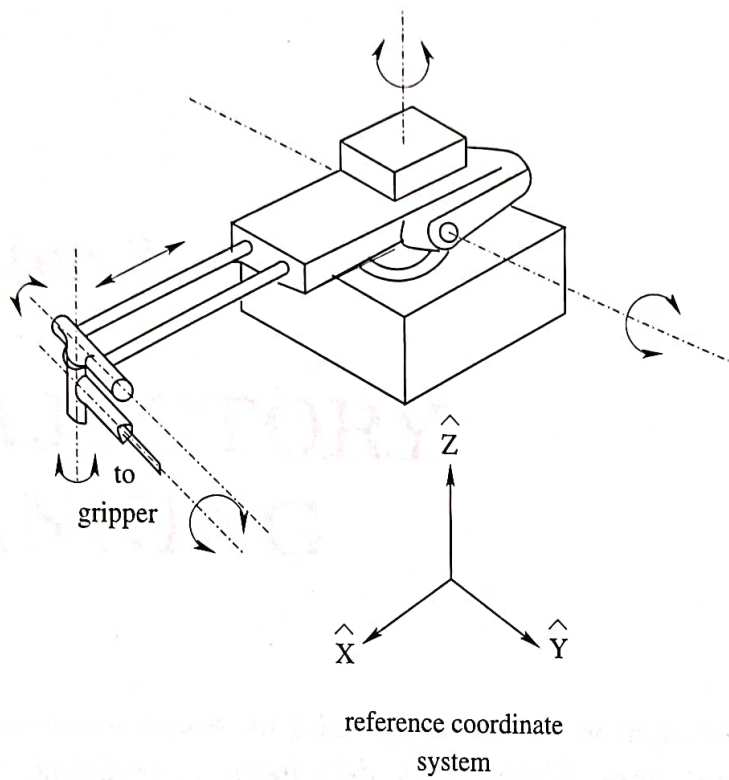

Figure 2.22: A 6 dof manipulator.
20. Fig. 2.22 shows a 6 dof manipulator.